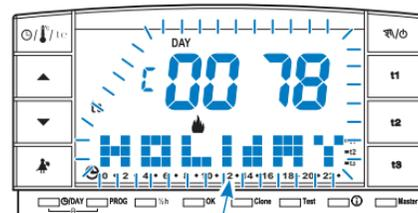

fig. 58
- The screen of the P 04 HOLIDAY program will appear on the display for 2 seconds every minute (example in fig. 58) as a reminder that it is in stand-by.